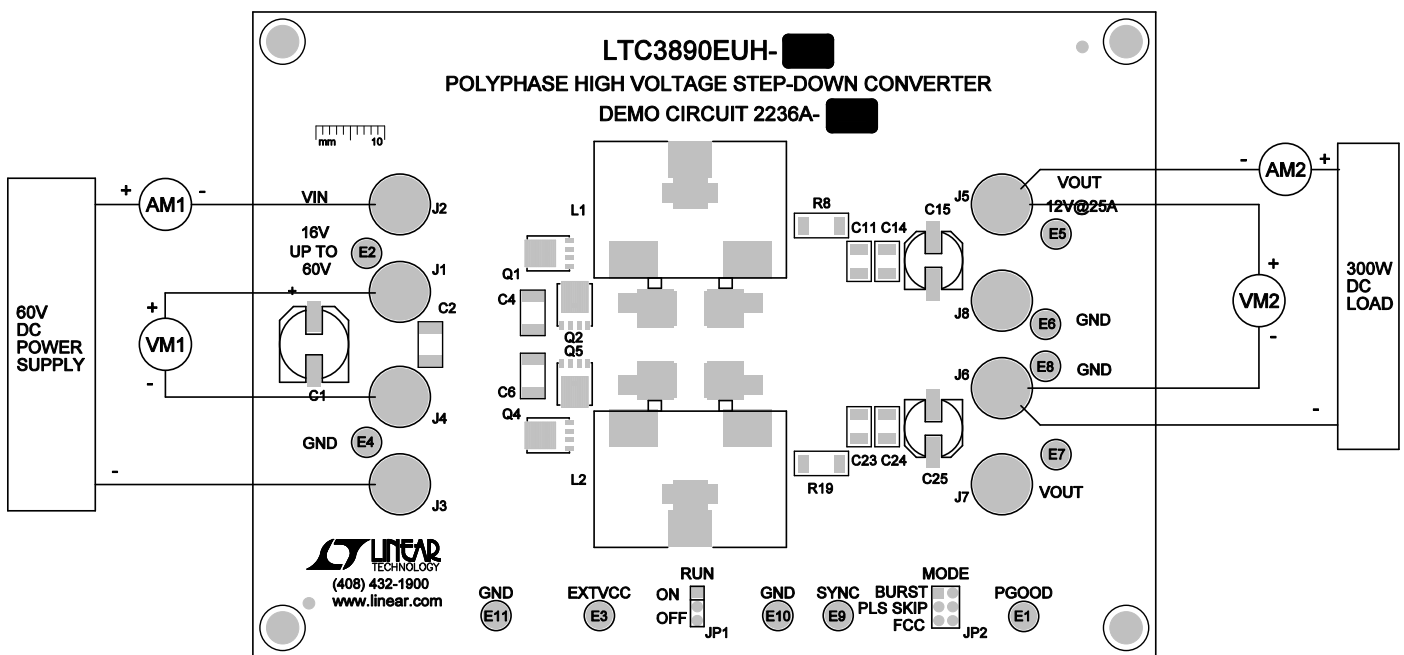

Figure 1. Proper Measurement Equipment Setup
Demonstration circuit 2236A-A is easy to set up to evaluate the performance of the LTC3890-2. For proper measurement equipment configuration, set up the circuit according to the diagram in Figure 1. Before proceeding to test, insert shunt into JP1 (RUN) OFF position, which connects the RUN pin to ground (GND), and thus, shuts down the circuit.
1. With the DC2236A-A set up according to the proper measurement and equipment in Figure 1, apply 20V at V_{IN} . Measure V_{OUT} ; it should read 0V. If desired, one can measure the shutdown supply current at this point. The supply current will be approximately $50\mu A$, or less, in shutdown.